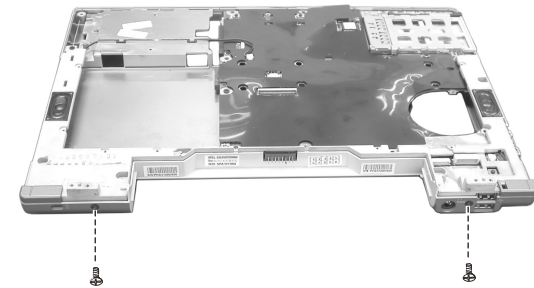

Figure 2-26 Remove the two screws
3. Remove the two screws fastening the housing. (Figure 2-26)